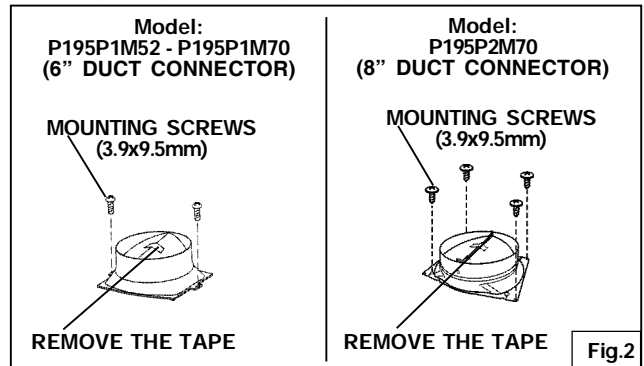

Fig.2
1. Install the damper duct connector onto the hood using mounting screws (3,9x9,5mm) as shown in Fig.2
2. Remove the tape located on the damper. See Fig.2.